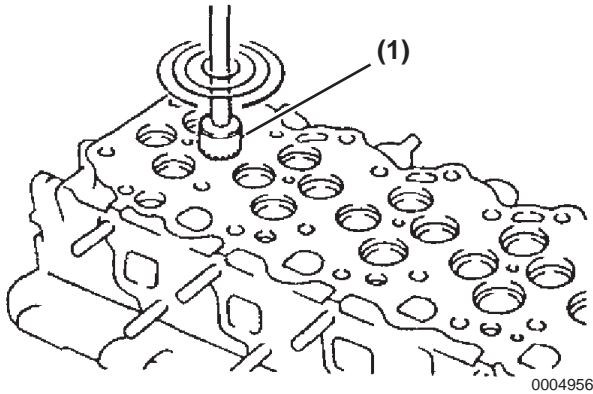

Figure 5-31
1. Finish the valve seat surface using a 45° cemented carbide cutter (**Figure 5-31, (1)**). Only cut and remove the minimal amount of metal as necessary for cleaning.
- Inspect the valve seat for proper contact width (**Figure 5-31, (1)**) and proper location within the middle of valve face.